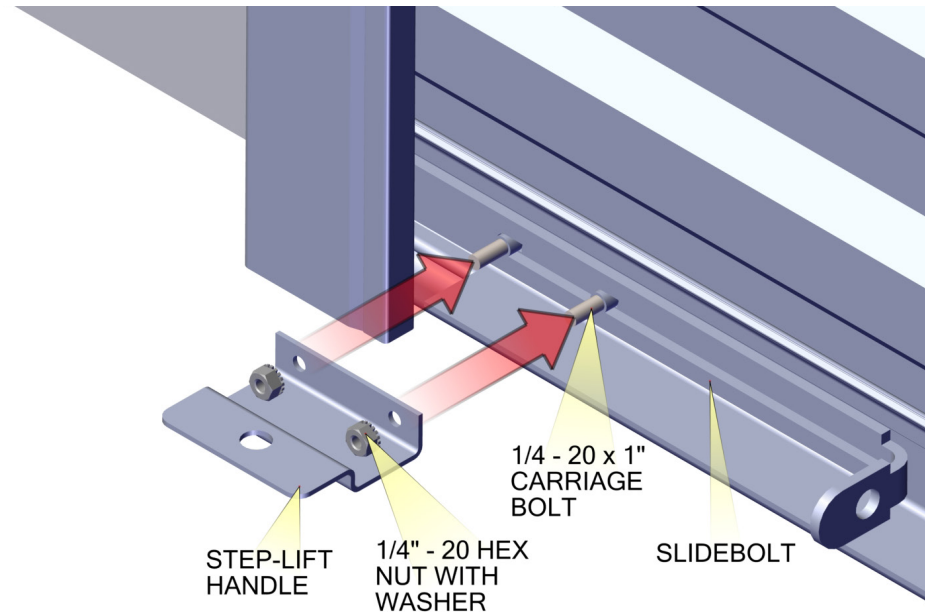

FIG 12
- Install slide locks to bottom bar as shown in Figure 12.